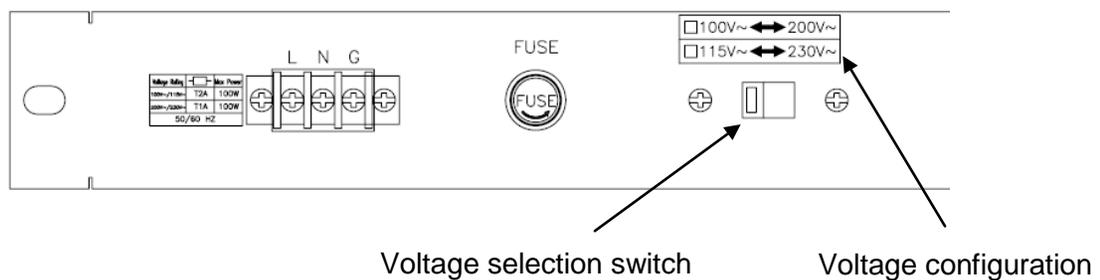

Fig 2-2 33432G LINE INPUT AND VOLTAGE SELECT SWITCH
2.2.3 Refer the drawing on the rear panel of 33432G high power load in Fig 2-2, set the switches to the proper voltage as describe in the following: